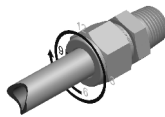

Fig. 3
3. For tube fittings below or equal to 3/16" (4mm) O.D., tighten the nut 3/4 turn to 3 o'clock position with a wrench, while holding the fitting body steady. For tube fittings above 3/16"(4mm) O.D., tighten the nut 1-1/4 turns to 9 o'clock position. (Fig.3)